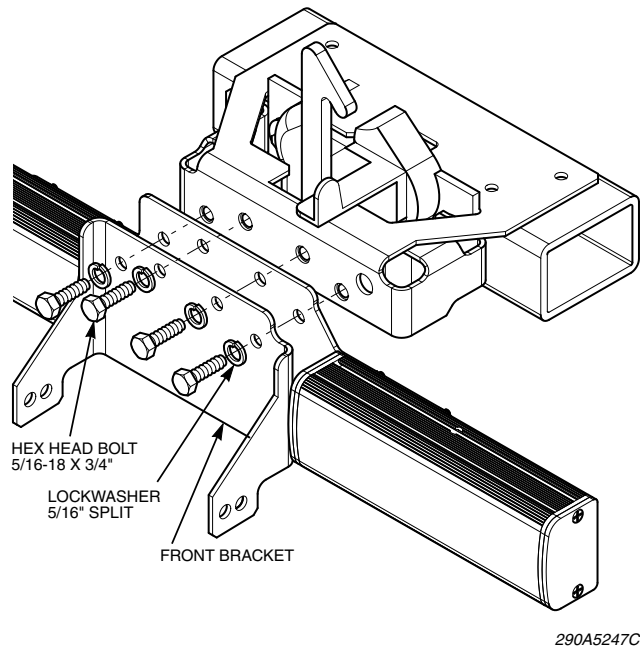

Figure 5: Attaching the front bracket
- b. Attach the front bracket and the warning light mounting plate assembly to the main bracket with the four 5/16-18 bolts and split lockwashers provided in the kit (*Figure 5*).